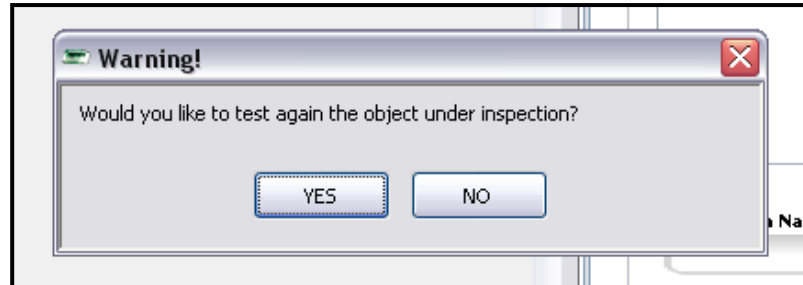

Figure 75. Example preview.
3. Click Preview to see how the window appears. [Figure 75]